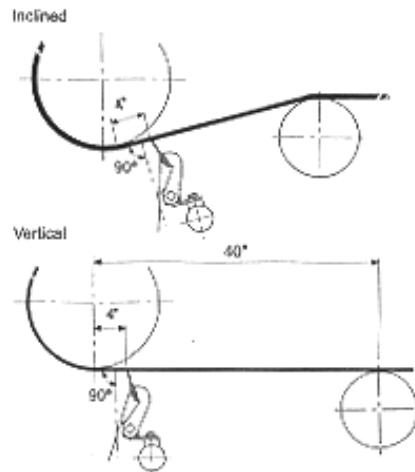

FIG 5
Vertical - The recommended blade position is 4" minimum from the vertical centerline of the head drum. (See Fig 5)
4. On Installations where there is no snub pulley, the first return roller should be installed approximately 40" from the center of the head pulley. This will ensure that the belt is sufficiently supported and flat. The belt needs to be flat as possible to ensure good blade contact and cleaning efficiency. (See Fig 5)
In order to ensure that the Arch RBS Metal-Bladed Segmented Secondary Scraper operates correctly, it is essential that all blades are inclined in the direction of the belt traveling using the belt scraper principle like a "paint scraper". (Fig 5)